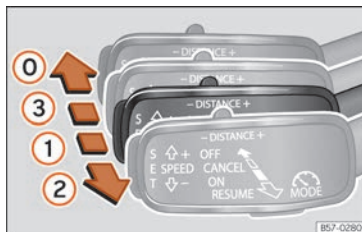
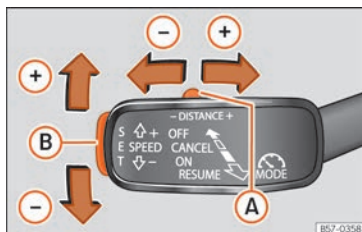

Fig. 158 On the left of the steering column: operating the ACC with the third lever.
Fig. 159 On the left of the steering column: operating the ACC with the third lever.
Your vehicle has ACC if it has a third lever to the left of the steering column »» Fig. 158.
» **Fig. 158** ①
- To start regulation, press button **SET** » **Fig. 159** ② or move the lever to position **RESUME** » **Fig. 158** ②.
To set the speed, move the third lever up + or down - to the desired speed »» Fig. 159. The speed is adjusted at intervals of 10 km/h (5 mph).
When the ACC is active, the lever can be moved to position **RESUME** »» Fig. 158 ② to increase the desired speed by 1 km/h (1 mph). You can then press **SET** to decrease it by 1 km/h (1 mph).
- Move button ① »» Fig. 159 right or left to increase or decrease the distance.
- Move the third lever to position **CANCEL** »» Fig. 158 ③ or press the brake pedal.